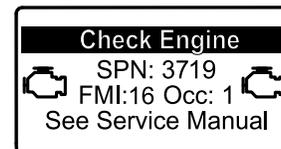

Figure 39
- If a parked regeneration is needed, the InfoCenter displays engine warning SPN 3719, FMI 16 (Figure 39) and the engine computer derates engine power to 85%.